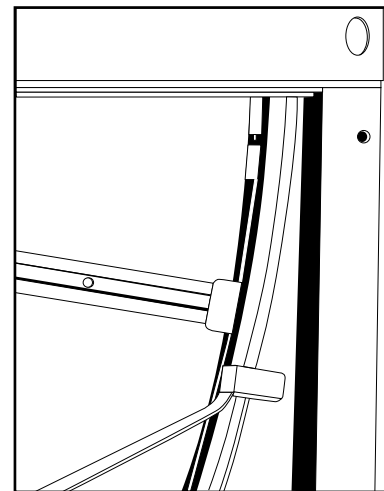

Fig. 193 — Detail of Belt Retaining Clip Location
8. Rotate wheel counterclockwise until belt retaining clip is within a few inches of the wheel bearing beam (see Fig. 193).